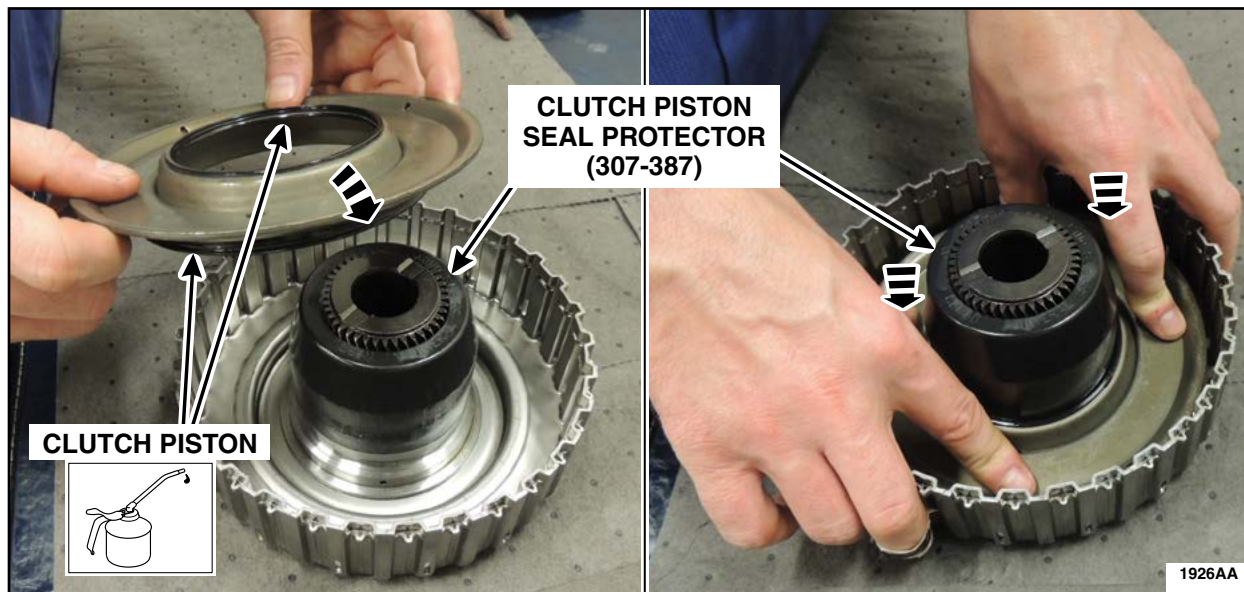

FIGURE 27
23. Lube the inner and outer coast clutch piston seals with automatic transmission fluid and install the *new* piston into the *new* coast clutch cylinder using the Clutch Piston Seal Protector (307-387). See Figure 27.